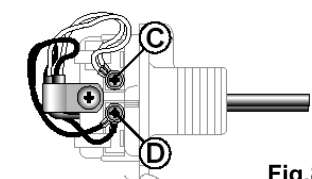

Fig.8
4. Loosen the screws on terminals (C) and (D). Connect the spade connectors of the controller cables to these terminals. Tighten the screws on terminals (C) and (D). Polarity is not important, either wire colour can be connected to either terminal (fig.8).